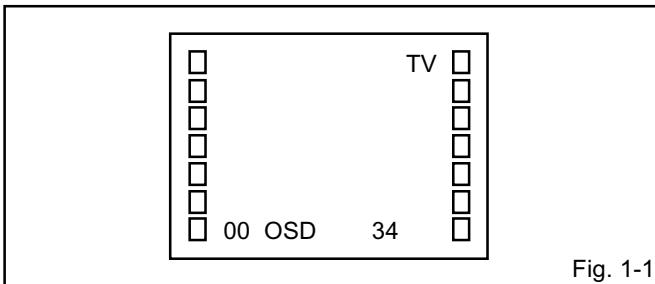

Fig. 1-1
1. In the condition of NO indication on the screen. Press the VOL. DOWN button on the set and the Channel button (9) on the remote control for more than 1 second to appear the adjustment mode on the screen as shown in Fig. 1-1.
2. Activate the adjustment mode display of Fig. 1-1 and press the channel button (01) on the remote control to select "CUT OFF".
4. Activate the adjustment mode display of Fig. 1-1 and press the channel button (10) on the remote control to select "R. DRIVE".
3. Activate the adjustment mode display of Fig. 1-1 and press the channel button (03) on the remote control to select "H.PHAS".
3. Activate the adjustment mode display of **Fig. 1-1** and press the channel button **(07)** on the remote control to select "V.SIZE".
3. Activate the adjustment mode display of **Fig. 1-1** and press the channel button **(08)** on the remote control to select "V.LIN".
1. Activate the adjustment mode display of **Fig. 1-1** and press the channel button **(16)** on the remote control to select "BRI. CENT".
4. Activate the adjustment mode display of **Fig. 1-1** and press the channel button **(24)** on the remote control to select "TINT".
13. Activate the adjustment mode display of **Fig. 1-1** and press the channel button **(24)** on the remote control to select "TINT".
1. Activate the adjustment mode display of **Fig. 1-1** and press the channel button **(18)** on the remote control to select "CONT.MAX".
5. Activate the adjustment mode display of **Fig. 1-1** and press the channel button **(18)** on the remote control to select "CONT.MAX".